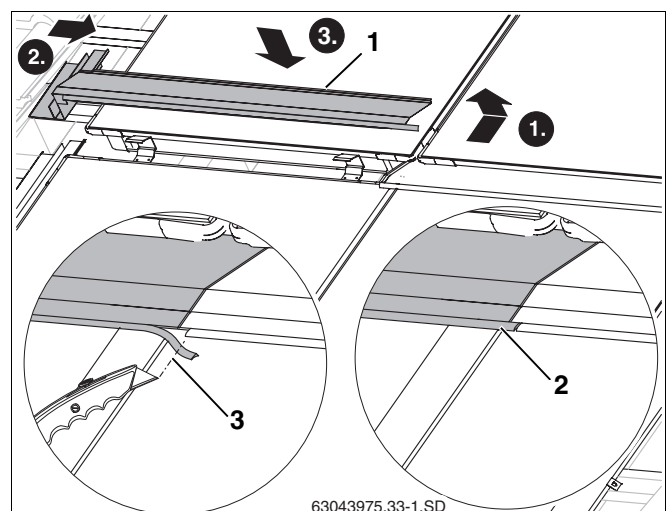

Fig. 54 Laying middle-left facing panel in place
- ▶ Insert upward fold on the left-hand facing panel (Fig. 54, **Item 1**) into the recessed channel on the collector frame, just as was done with the right-hand facing panel.
- ▶ Shorten the rubber lip (Fig. 54, **Item 3**), so that it touches the rubber lip on the right-hand facing panel.
- ▶ Place rubber lip on the left-hand facing panel onto the fold on the right-hand facing panel (Fig. 54, **Item 2**).